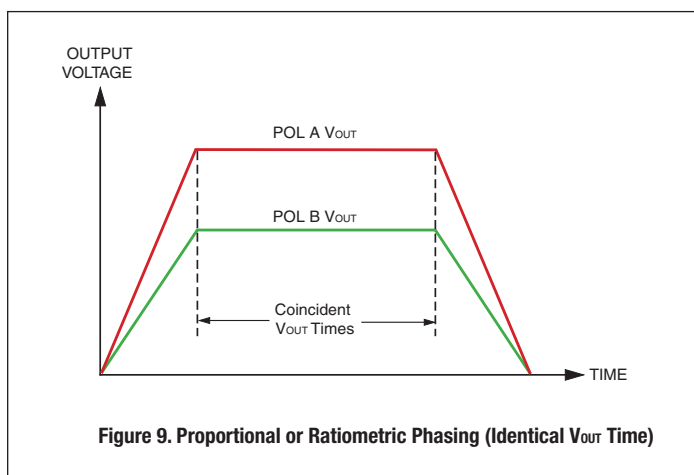
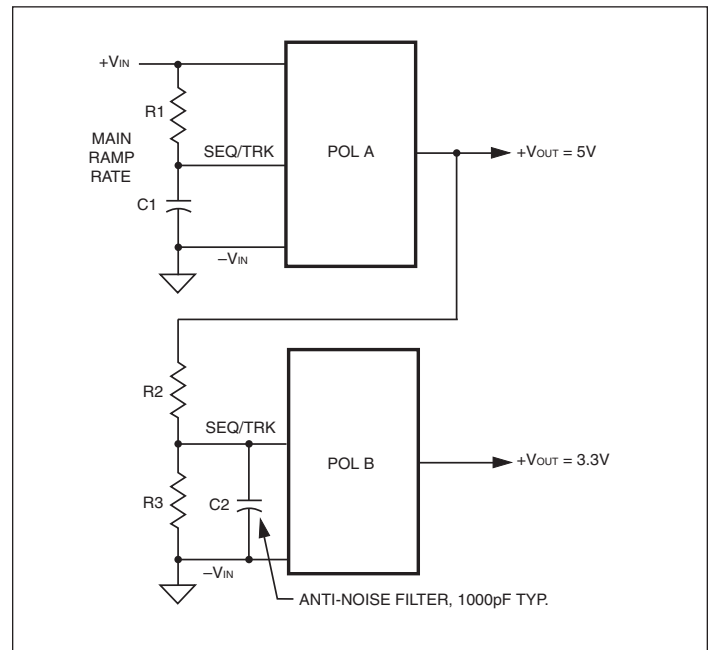

Figure 9. Proportional or Ratiometric Phasing (Identical V_{out} Time)
Figure 14. Proportional Phasing
Figure 9 shows two POL's with different slew rates in order to reach differing final voltages at about the same time.
Figure 14 shows both a RC ramp on Master POL A and a proportional tracking divider (R2 and R3) on POL B. We have also added an optional very small noise filter cap at C2. Figure 14's circuit corresponds roughly to Figure 9's timing for power up.
- [7] The Sequence is a sensitive input into the feedback control loop of the converter. Avoid noise and long leads on this input. Keep all wiring very short. Use shielding if necessary. Consider adding a small parallel ceramic capacitor across the Sequence/Track input (see Figure 14) to block any external high frequency noise.